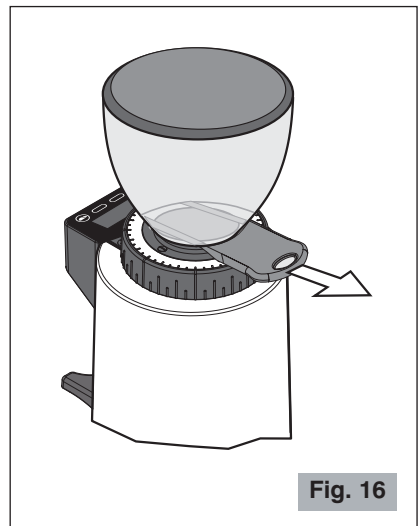

Fig. 16
**!** **Make sure that shutter is completely open (to the last click) (see Fig. 16).**